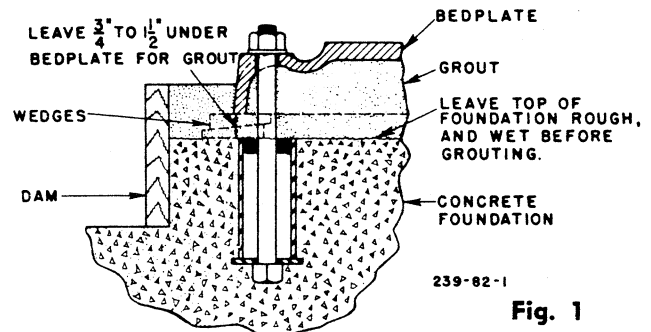

Fig. 1
- (b) Each bolt should be installed with a pipe sleeve around it — to allow for adjustment. The inside sleeve diameter should be $2\frac{1}{2}$ to 3 times the diameter of the bolt. Place a washer between bolt head and sleeve to hold bolt in position. See Fig. 1.
$1\frac{1}{2}$ "), the thickness of the bedplate, and the thickness of the foundation bolt nut. See Fig. 1.
- (a) Build wood dam around foundation as shown in Fig 1. and wet top surface of concrete foundation thoroughly.